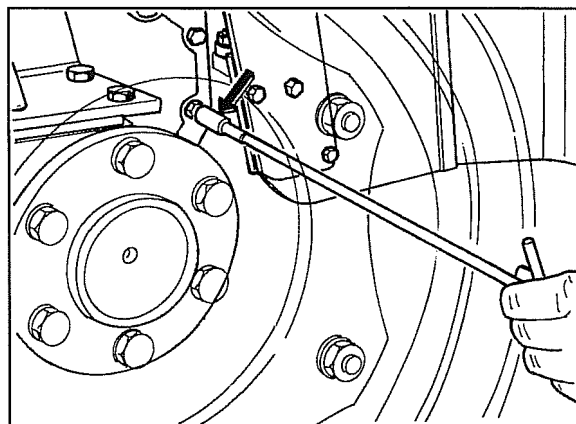

Fig. 2
- 2 To bleed the air from the brake circuit, slacken off the bleed screw on the wheel hub as shown in Fig.2. Allow the brake fluid to drain out until no air bubbles come out, Tighten the screw back. Repeat this procedure on the other wheel. Check to make sure there is enough brake fluid in the reservoir and top up as needed using the same type of brake fluid.